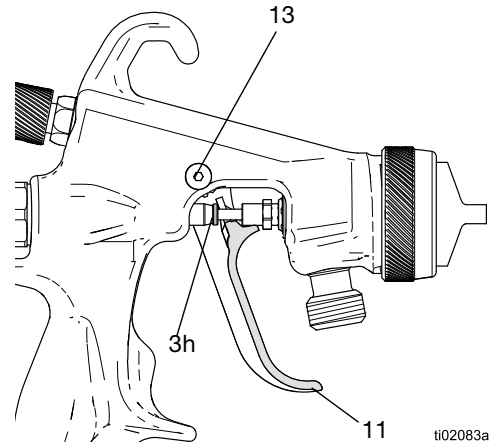

FIG. 26: Replace Trigger
8. Push the trigger quick release (13) on the side of the gun and reinstall the trigger (11). Make sure the washer on the needle (3h) is behind the trigger when reinstalling. See FIG. 26.